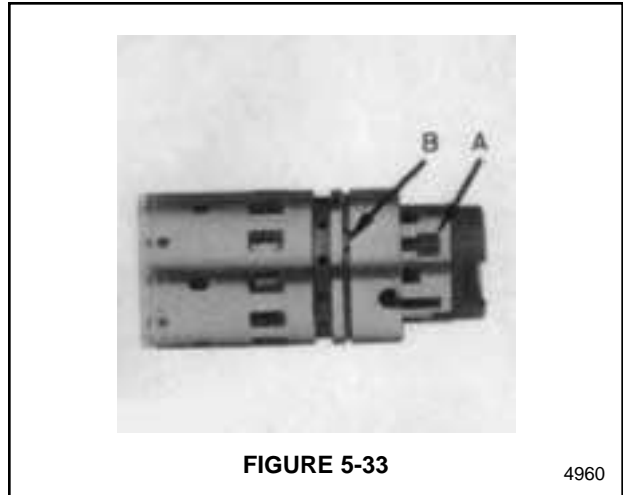

FIGURE 5-33
holes (B) in the sleeve. See Figure 5-33.